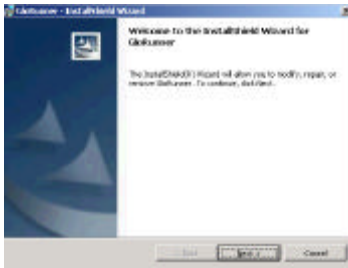

Figure 24
1. Place the CD disk of the Turner BioSystems GloRunner™ Microplate Luminometer software in the D: drive of your computer. Most computers will automatically start the installation process once the disk is placed in the CD-ROM. If your computer automatically installs, you will see the InstallShield Wizard screen show in Figure 24.